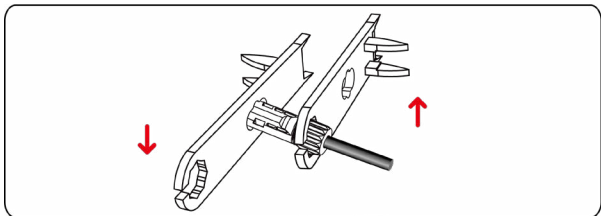

Figure 5.13 Locking connectors
Step 4 Tighten the locking nuts on the positive and negative connectors using a removal wrench, as shown in **Figure 5.13**.